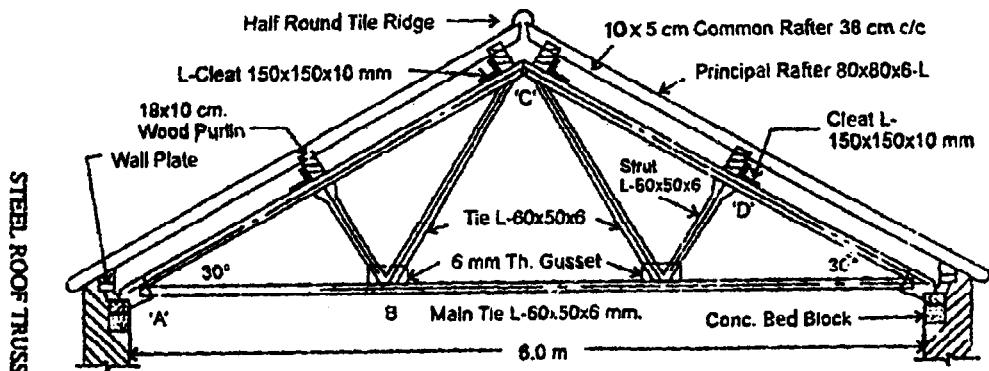

Fig. No. 3
- Figure No. 3 shows roof truss for 6 m span. Draw detail connection of joint at A, B, C and D.